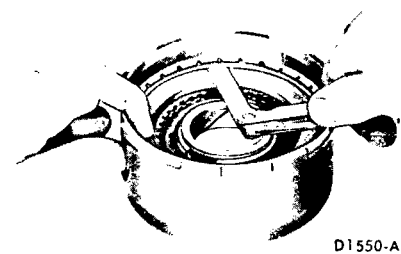

FIG. 86—Checking Reverse-High Clutch Snap Ring Clearance
13. With a feeler gauge, check the clearance between the snap ring and the pressure plate (Fig. 86).